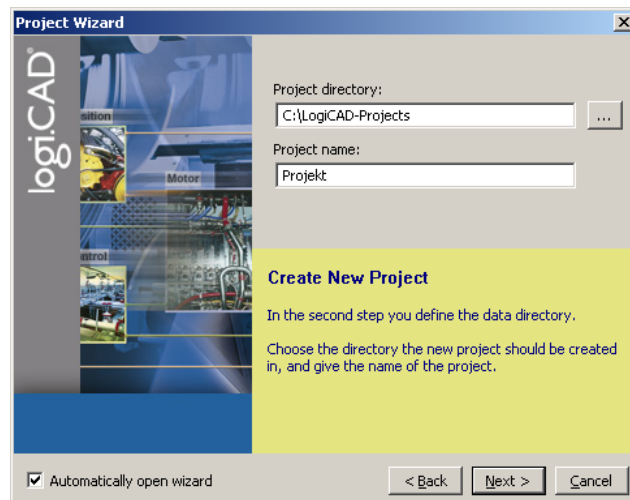

Figure 48: Project name and path
5. Specify the name of the project and the path where to store the project files, see Figure 48.